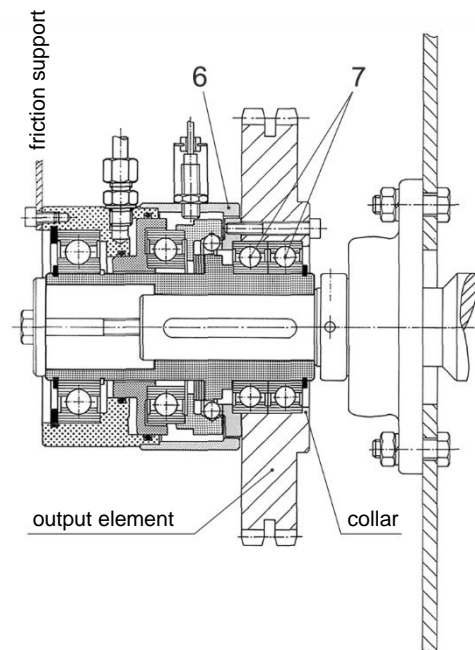

Fig. 3
The drive elements of the EAS®-Sp short hub are centred on both deep groove ball bearings (7) and are screwed together with the pressure flange (2). Please see Table 1 for the thread diameter, max. screw-in depth and tightening torque. The drive elements must be secured against axial movement in the direction of the sealing cover (6) (on pressureless clutch), via a collar, a locking ring or similar component (see Fig. 3). If the resulting radial force from the drive element is anywhere near the centre of both ball bearings (7), an additional bearing for the drive element is unnecessary (see Fig. 3).
- ❑ As standard the bore in the hub (1) is provided with a H7 tolerance and the keyway is produced acc. DIN 6885.
- ❑ The device is fixed axially onto the shaft, e.g. via a press cover and a screw, screwed into the central thread of the shaft (see Figs. 3 and 4).
The stator part (5) or the sealing cover (6) must not rotate. One of the four threaded holes on the facing side of the stator part (5) are to be used when mounting the friction support. The friction support must not transmit any appreciable forces onto the clutch or cause tensions on the stator part (5) bearing (Figs. 3 and 4).